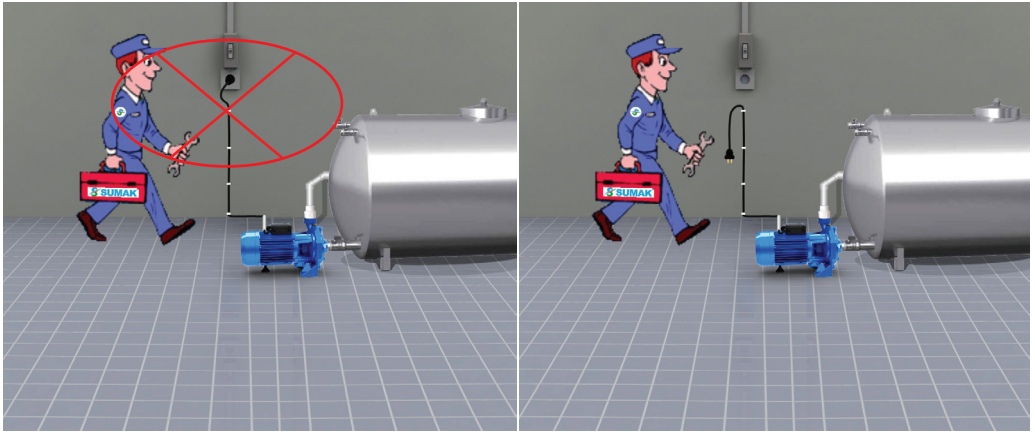

Figure 2
- 32- Please check Figure 1 in Page 17 for usage of pump and assembly information while mounting, Figure 2 in Page 20 for electric connection, Figure 3 in Page 22 for life security warnings.